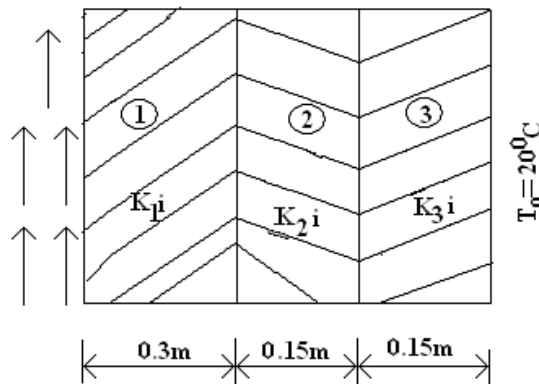

Figure 1
3. A composite wall consists of three layers of different material properties as shown in figure 1. The outer temperature is  $20^\circ\text{C} (=T_0)$  and convection heat transfer takes on inner surface of the wall. The surrounding temperature is  $800^\circ\text{C}$  and heat transfer coefficient,  $h=25 \text{ watts/m}^2\text{-K}$ .